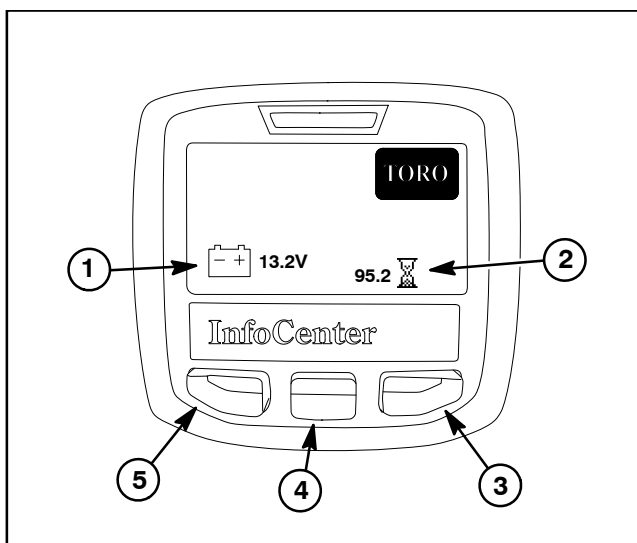

Figure 8
The two (2) InfoCenter splash screens (Figs. 8 and 9) are displayed when the ignition switch is initially turned to the RUN or START position. The splash screens allow basic machine information to be reviewed by the operator. After each of the splash screens has been on the InfoCenter for several seconds, the main information screen will be displayed on the InfoCenter.